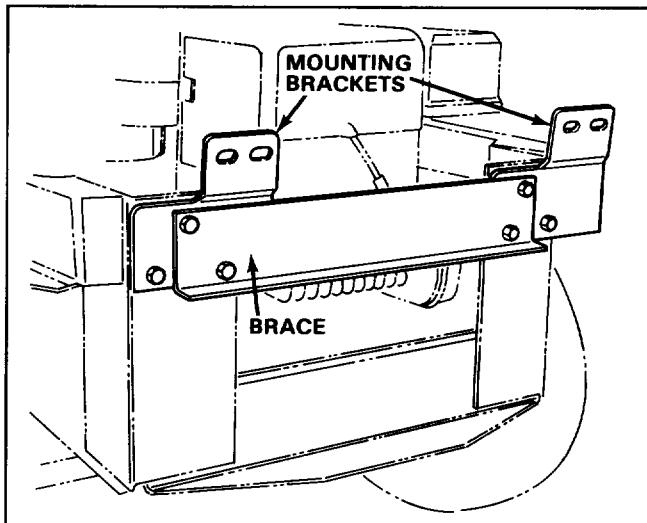

Figure 1
1. Secure (2) mounting brackets and brace to rear of HMR frame with (6) capscrews (7/8" lg.) and lock-nuts as shown in fig. 1.